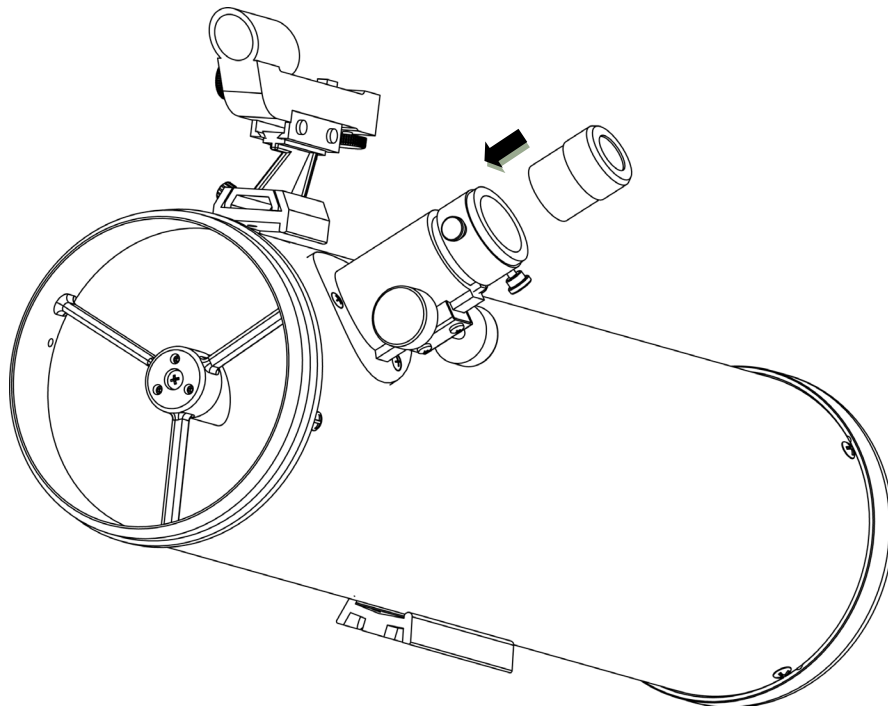

Fig.4.2.2a
2. Inserting eyepiece for reflector(Fig.4.2.2a)